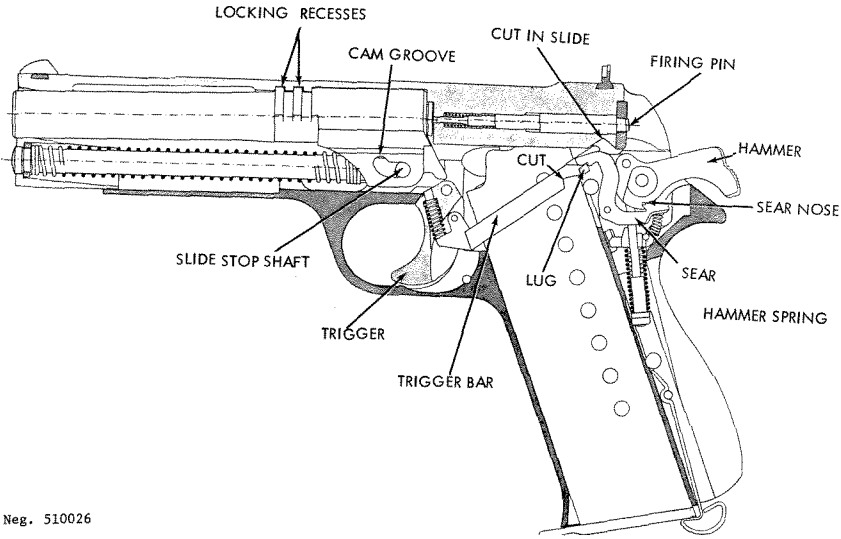

Figure 26. M49 pistol, disassembled.
b. Pull the slide forward, off the receiver. Invert the slide and pull the rear end of the driving spring guide (fig 26) up, out of engagement with the barrel. Grasp the barrel at the cam lug (fig 26), pull up and rearward to remove.
c. Pull the hammer mechanism (fig 26) upward, out of its seat in the receiver.
- f. Insert the muzzle end of the barrel into the hole in the front of the slide, then seat the rear end of the barrel into position within the slide. Seat the driving spring against its seat in the front of the slide and force the driving spring guide (fig 26) forward against pressure of the spring until the guide can be seated in the cam lug of the barrel.
- g. Align the rails at the bottom of the slide with the grooves at the top of the receiver and move the slide rearward until it stops. Pull the slide farther rearward slightly, against spring pressure, and insert the shaft of the slide stop (fig 26) into its hole from the left. Seat the slide stop fully; it may be necessary to slightly move the slide back and forth to allow the slide stop to seat. Insert the magazine.